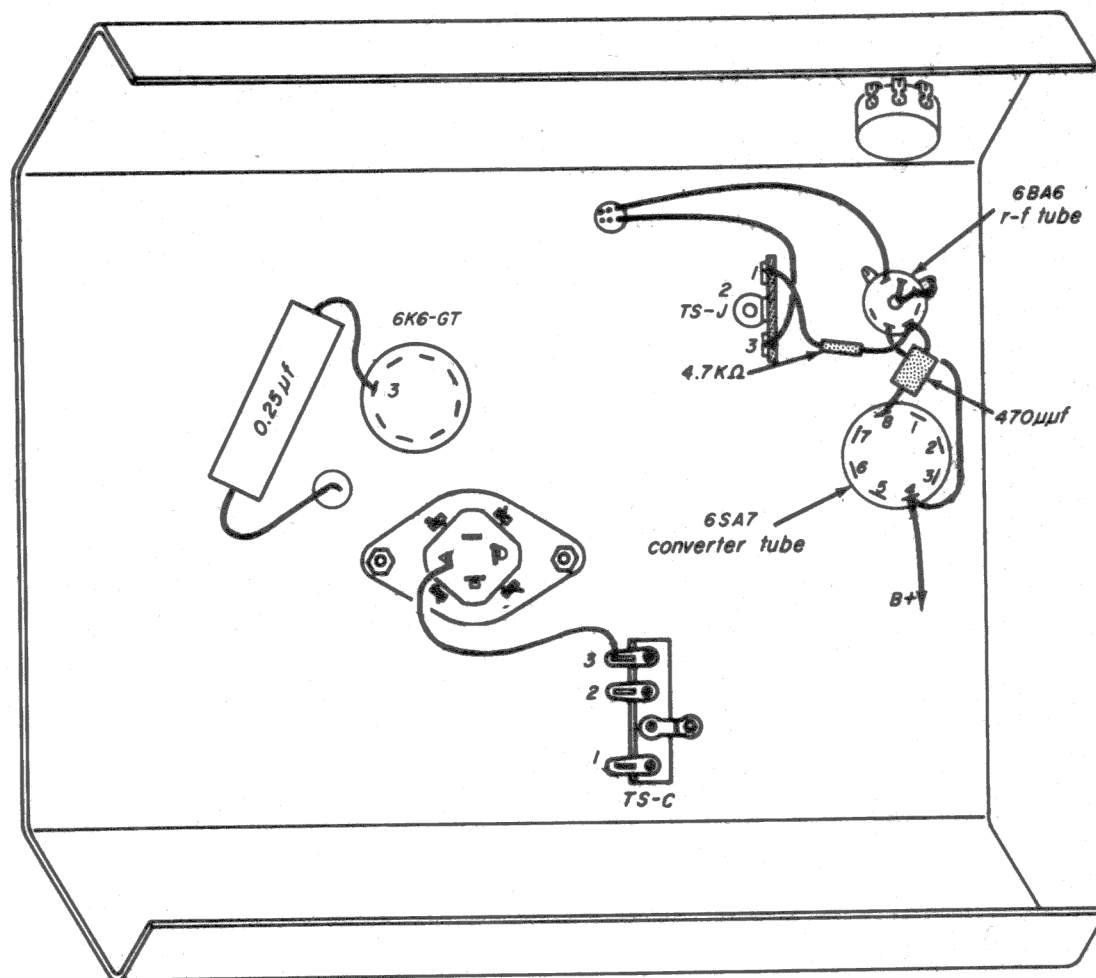

Fig. 32-1
To complete the wiring of the r-f stage of your receiver in preparation for the experiments to follow. Figure 32-1 is a pictorial
Step 1. One end of a 4.7 k-ohm $\frac{1}{2}$ -watt resistor should already be connected to pin 5 of the 6BA6 r-f tube. (If not, connect it) Connect the free end of this resistor to TS-J, terminal 1 (Fig. 32-1).
Step 2. Connect a length of hookup wire from pin 6 of the r-f tube to pin 4 of the converter (Fig. 32-1).
Step 5. Run a lead from terminal 2 of TS-L through the chassis hole in line with the r-f stator lug of the tuning capacitor and along the bottom surface of the chassis (Fig. 32-1) to terminal 3 of TS-J. Terminal 3 of TS-J is an AVC tie point in your chassis.